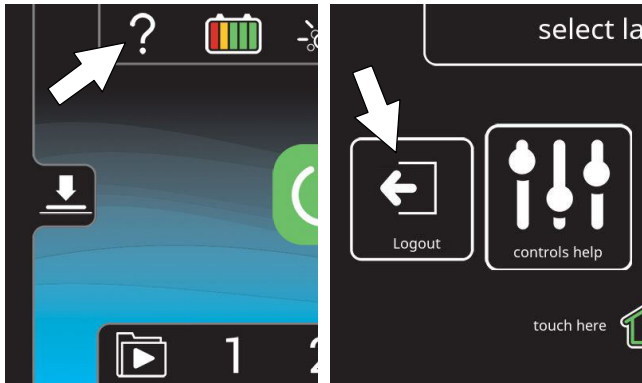

FIG. 181
- 7. When the user is done operating the machine, it is recommended the user log out by pressing the help button, and then pressing the logout button (Figure 181). Turning the key to the off position is another way to also logout